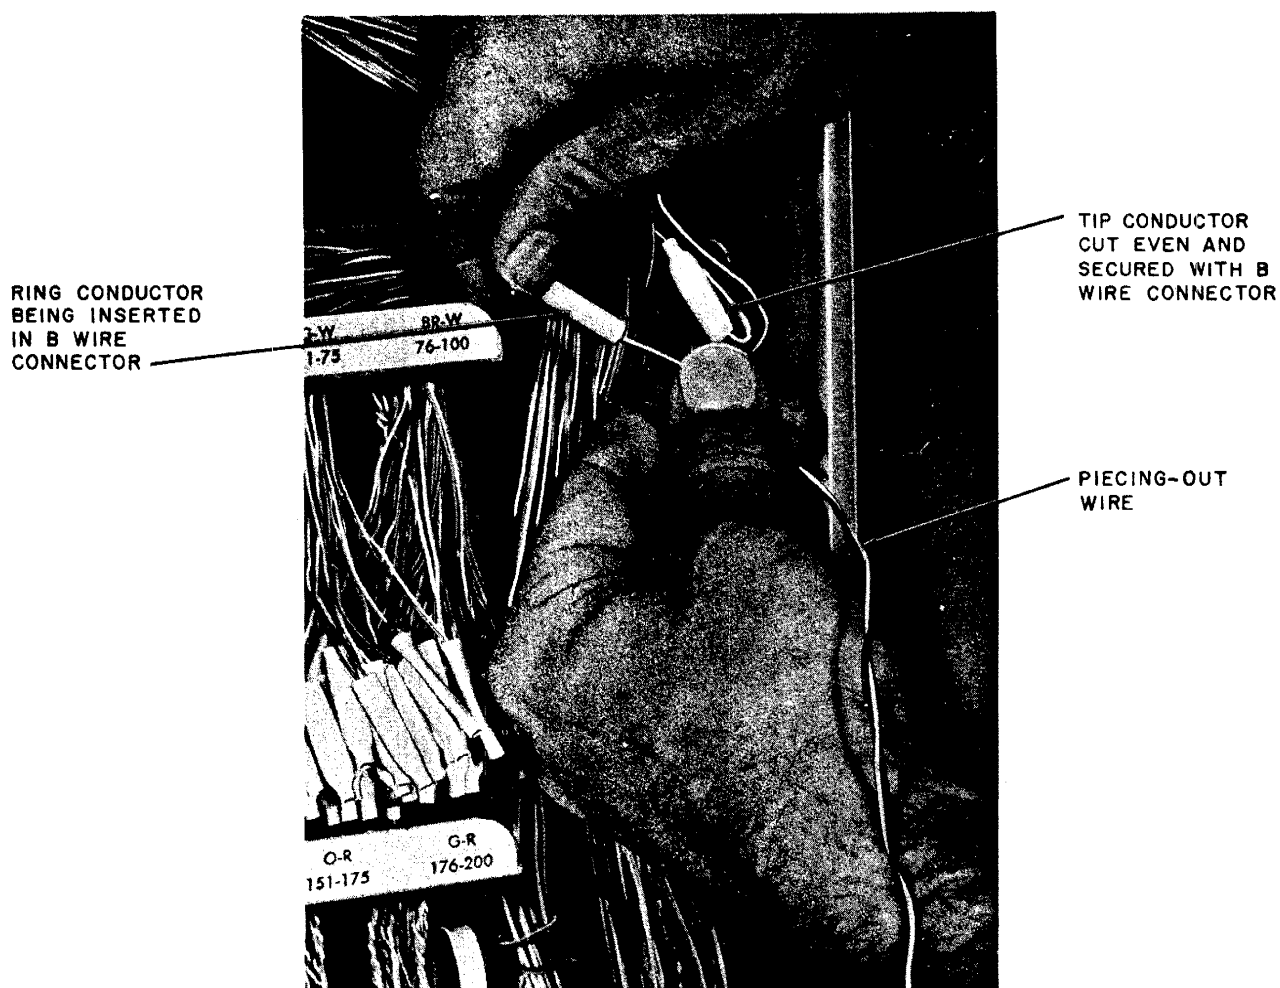

Fig. 13—Piecing-Out *IN* Cable Pair
**6.02** The procedures for piecing-out the *IN* cable pair (Fig. 13) are identical to the procedures outlined in 6.01, except cross-connecting wire may be used as the piecing-out wire if no wire having the same-colored insulation or gauge as the *IN* cable pair is available. *Never use an odd-colored wire.*